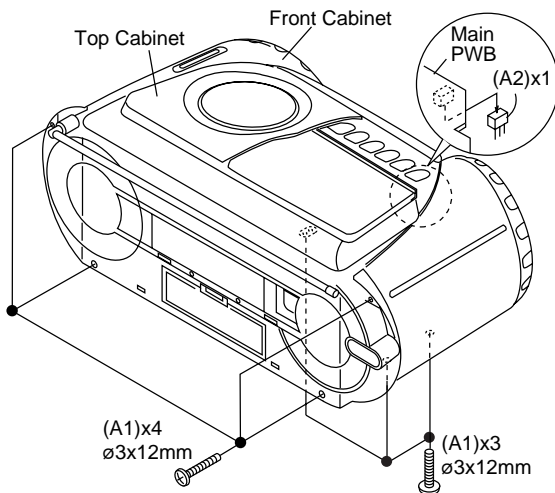

Figure 8-1
1. Remove the front cabinet. (Refer to Fig.8-1 on page 8, "Disassembly method".)
3. Insert the dial pointer from (A) of the top cabinet so that it engages with the drum gear.
4. Fully turn the drum in the opposite direction of (B) and set it to the FL marks.